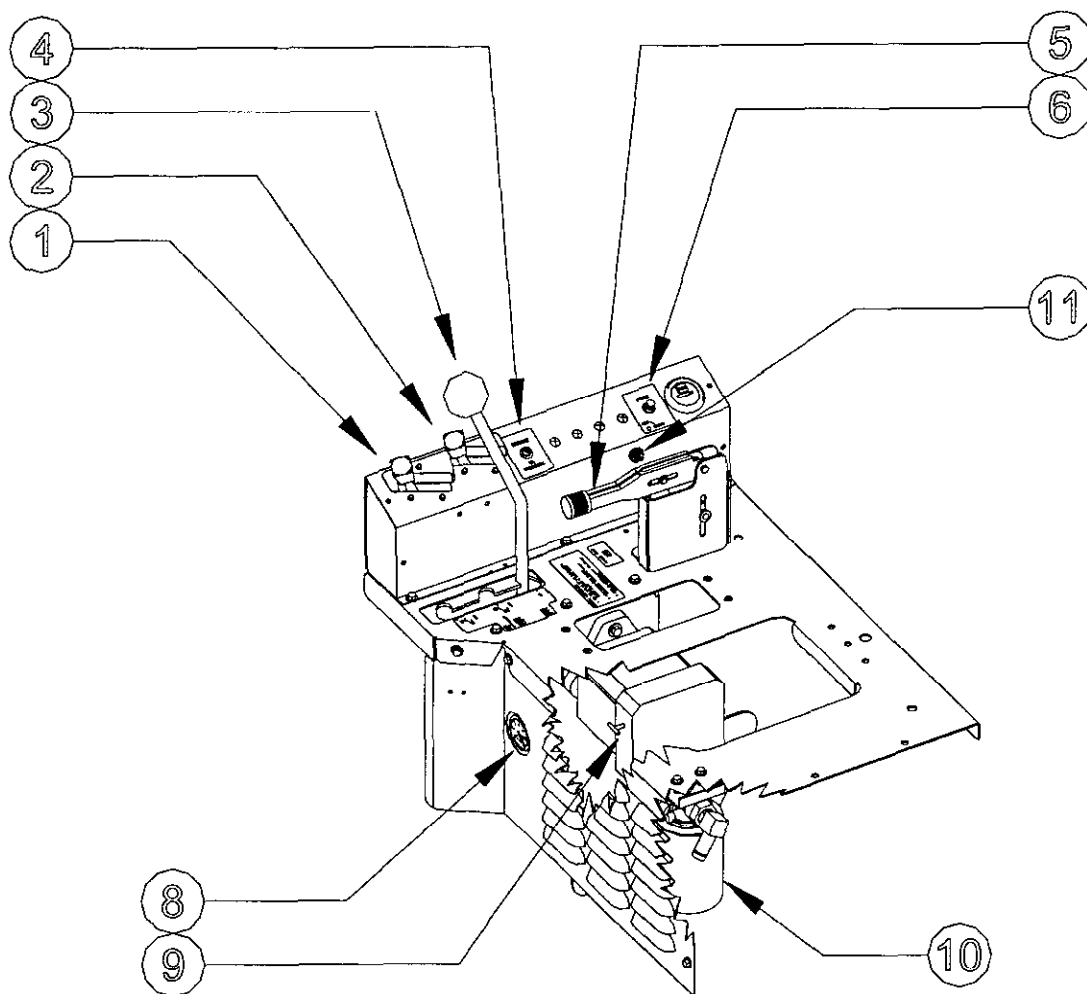

Figure 5
Choke (Fig. 5) — To start a cold engine, move the choke control forward to close the choke. After engine starts, regulate choke to keep engine running smoothly. As soon as possible, move the choke backwards to open the choke. A warm engine requires little or no choking.
Throttle Control (Fig. 5) — Throttle is used to operate engine at various speeds. Moving throttle forward increases engine speed; backwards decreases engine speed. The throttle regulates the speed of the sweeper reels and in conjunction with traction pedal controls ground speed of the sweeper.
Engine Oil Pressure Warning Light (Fig. 5) — Light glows if engine oil pressure drops below a safe level while engine is running. If light flickers or remains ON, stop machine, turn off engine and check oil level. If oil level is low, but adding oil does not cause light to go out when engine is restarted, turn off engine immediately and contact your local Authorized TORO Distributor/Authorized TORO Landscape Contract Equipment Dealer for assistance.
Ignition Key Switch (Fig. 5) — The key switch, which is used to start and stop the engine, has three positions: OFF, RUN, and START. Rotate key clockwise (START) to engage starter motor. When engine starts, release key and it will move automatically to the ON position. To shut engine off, rotate key counterclockwise to the OFF position.
Fuse: (Fig. 5) — Provides 5.0 amps ignition circuit protection. If fuse is blown the engine will not crank.
Hour Meter (Fig. 5) — Indicates total hours of machine operation. The hour meter starts to function whenever the key switch is rotated to the ON position.
Reel PTO Engagement Handle (Fig. 5) — The engagement of the sweeper reels is done with the Reel PTO Engagement handle. The handle also sets the height of the fingers. There are two settings for finger height. The height of the fingers is set so the fingers touch the top of the turf. The first setting will set the fingers at 1-1/4 inch from the surface. The second setting sets the fingers at 5/8 inch from the surface.
Hydraulic Vacuum Gauge (Fig. 5) — When the hydraulic oil filter becomes dirty the vacuum level within the hydraulic system will increase. Check vacuum gauge after each day's operation and before shutting off engine (refer to Changing Hydraulic Oil and Filter, page 24).
Tow Valve Knob (Fig. 5) — The tow valve knob is located in the front of the hydraulic pump. With the knob turned fully clockwise the machine is in the operating position. With the knob turned 1/2 turn counterclockwise the machine is in towing position. After completion of towing operation, and before starting engine, close tow valve securely by rotating fully clockwise. Do not exceed 5 – 8 ft. lb. torque.
Parking Brake (Fig. 5) — Whenever the engine is shut off, the parking brake must be engaged to prevent accidental parking movement of the machine. To engage the parking brake, pull back on lever. To release the parking brake push forward on lever. Make sure parking brake is released before moving machine. If the machine is parked on a steep grade, make sure parking brake is applied.
2. Rotate tow valve knob 1/2 turn counterclockwise (Fig. 5, Item 9).